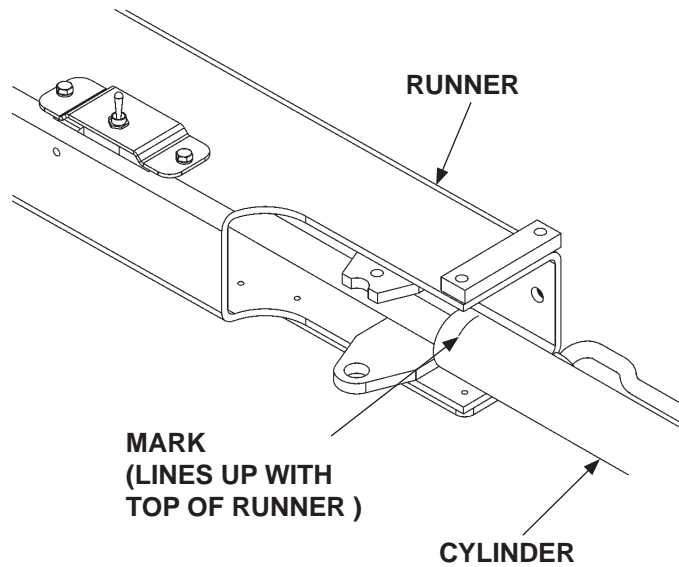

FIG. 28-1
14. Remove vise grip clamp, and mark cylinder at top of runner (FIG. 28-1).